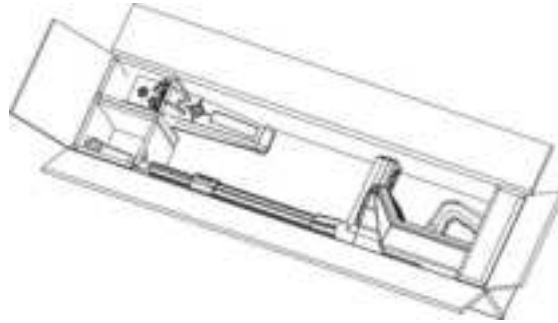

Figure 10
- a. Open the box (see Figure 10).